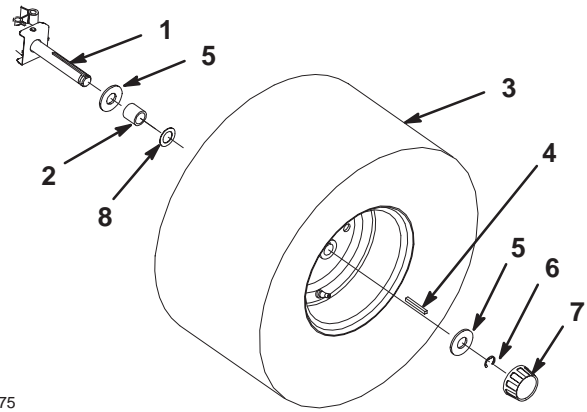

Figure 2
2. Slide a flat washer, spacer, and shim washer onto the axle (Fig. 2).
3. Slide the wheel onto the axle. Make certain that the valve stem is facing out (Fig. 2).
4. Slide the key into the keyway of the axle and wheel hub (Fig. 2).
5. Slide another flat washer onto the axle and secure it with the E-ring (Fig. 2). If the E-ring does not fit, remove the shim washer.
6. Press the hub cap over the washer (Fig. 2).